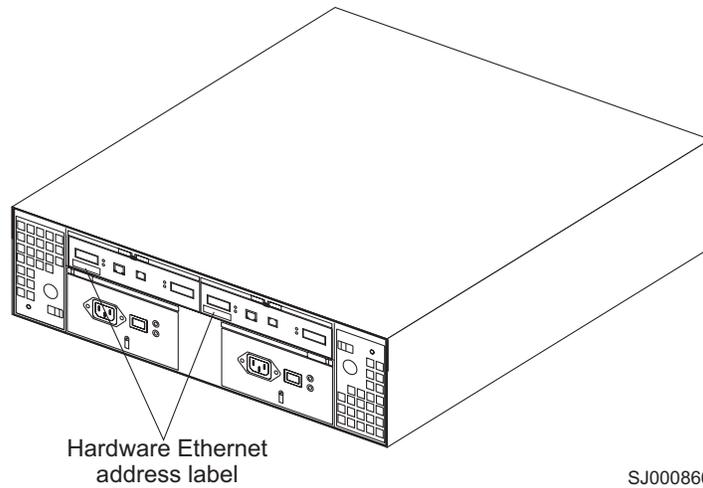

Figure 8. Locating the Ethernet MAC address for machine types 1722 and 3542
1. Locate the Ethernet MAC address at the back of the unit, under the controller gigabit interface converter (GBIC) ports, as shown in Figure 8 on page 25. The number is in the form xx.xx.xx.xx.xx.xx (for example, 00.a0.b8.20.00.d8).